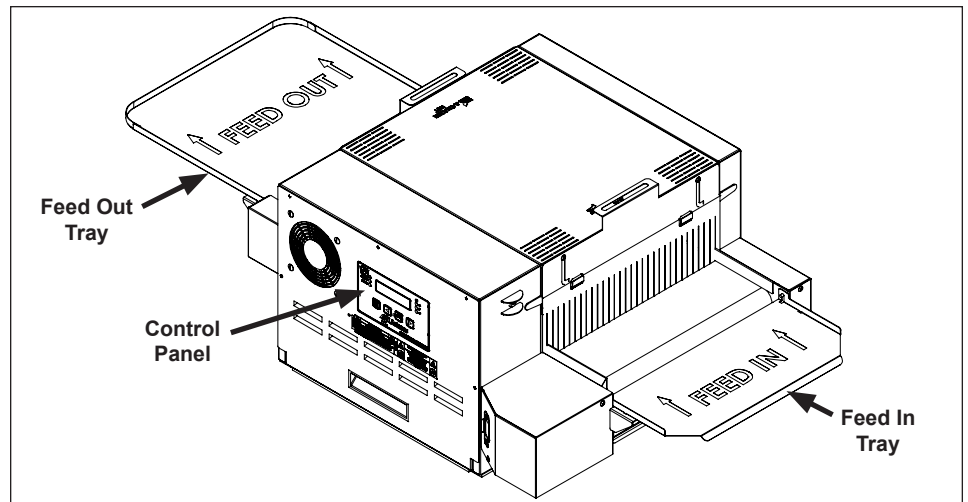

Figure 3. HRT-4H
1. When the unit is plugged in, press and hold the **MENU** button (Figure 3) for five seconds. The control panel displays "Heater A" The display shows the setpoint, operating current, and SSR Duty cycle.